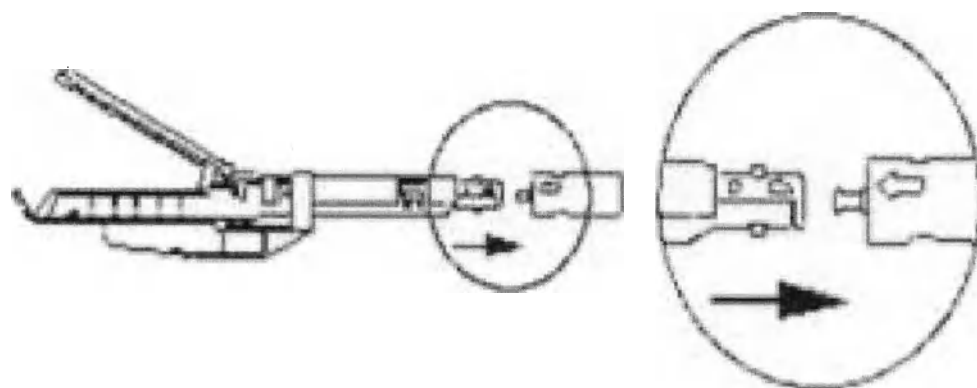

Figure 2.
2. Press down on the cassette and turn it clockwise relative to the stapler to secure it. The alignment indicator on the stapler shaft will align with the alignment indicator on the cassette (Figure 2).